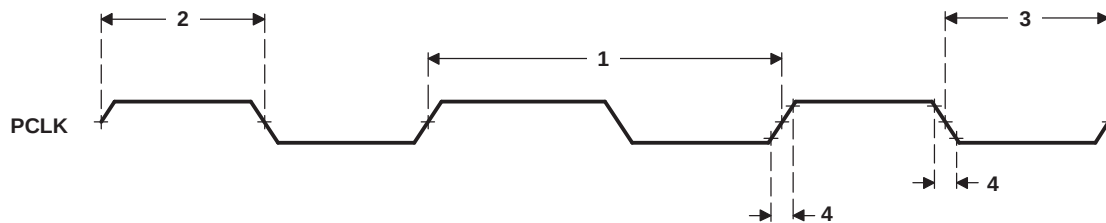

**Figure 6-19. VPFE PCLK Timing**
**Table 6-35. Timing Requirements for VPFE PCLK Master/Slave Mode(1) (see Figure 6-19)**